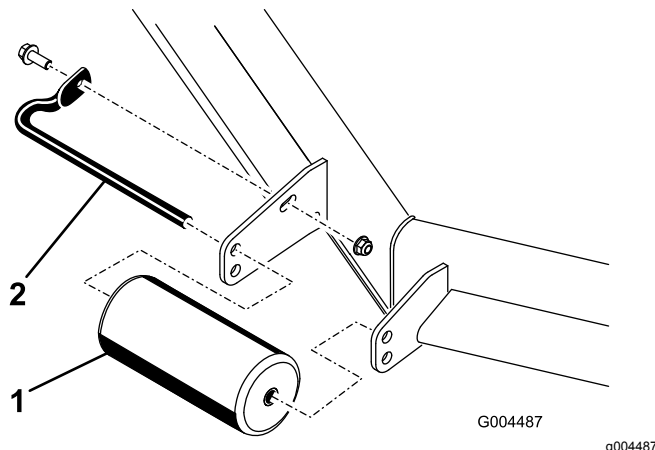

Figure 10
1. To adjust the front rollers, remove the screw and nut securing the roller shaft to the deck bracket (Figure 10).